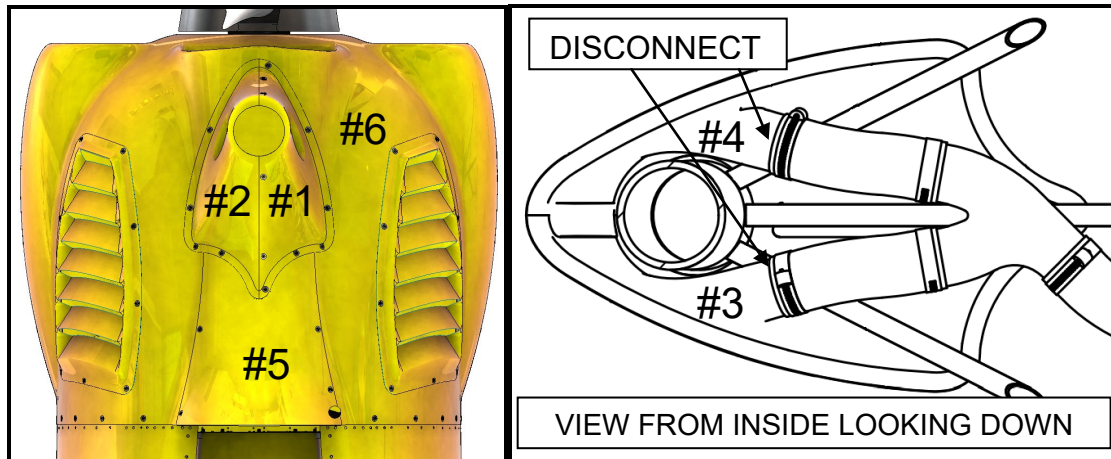

Figure 1 - Nose Gear Lower Cowl Panel Removal Order (#1 Thru #6)
- c. Disconnect cabin heat duct for heat exchanger inlet [first remove inlet duct panels (#1) and screws on Nose Gear equipped aircraft only]. See Figure 1 below, labeling ducts #3 and #4
- d. Remove lower cowl access panel #5 (Nose Gear equipped aircraft only). See Figure 1 above.